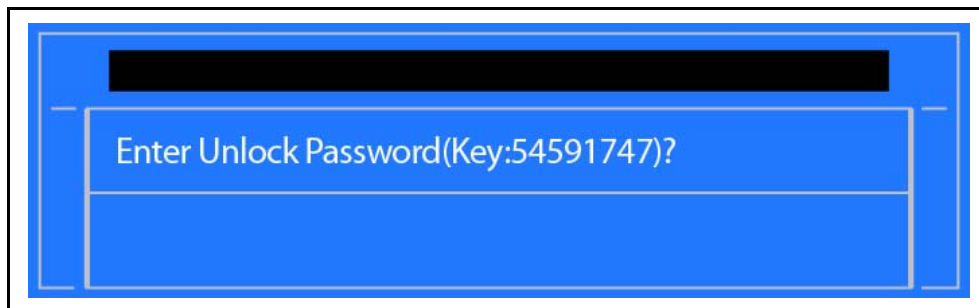

Figure 2-21. Enter Unlock Password Key
2. The Enter Unlock Password dialog (Figure 2-21) is shown.
4. Execute *UnlockHD.exe* (Figure 2-22) to create a password unlock code. Use the format `<UnlockHD [key code]>` with the code noted in the Figure 2-21.
5. On original device, enter password (Figure 2-22) in Enter Unlock Password dialog (Figure 2-21).